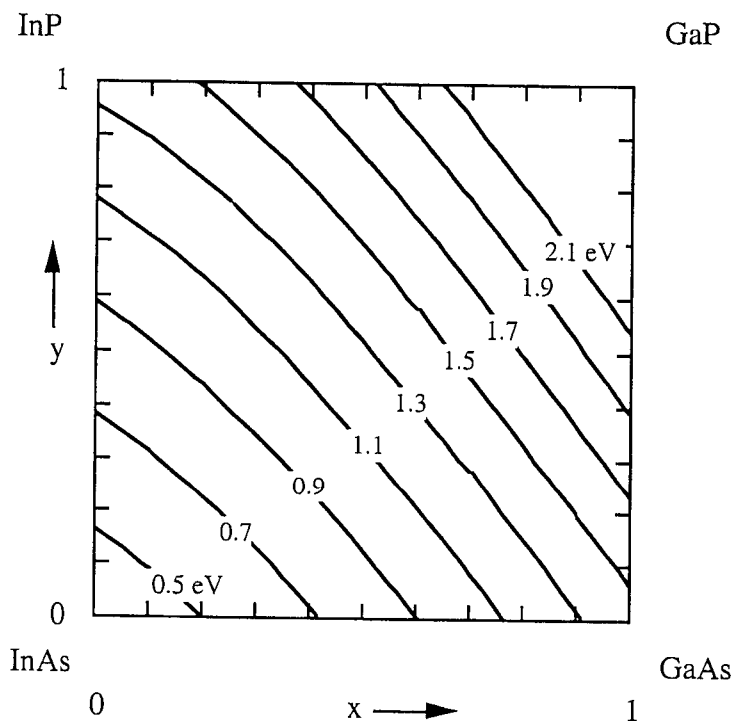

Figure 2.
- c) Figure 2 shows the variation of bandgap with composition for the whole $\text{In}_{1-x}\text{Ga}_x\text{As}_{1-y}\text{P}_y$ system. Sketch your solution to Part b) on this Figure*. Hence, estimate the wavelength range over which a substrate-entry $\text{In}_{1-x}\text{Ga}_x\text{As}/\text{InP}$ photodetector is likely to be effective. [2]; [4]